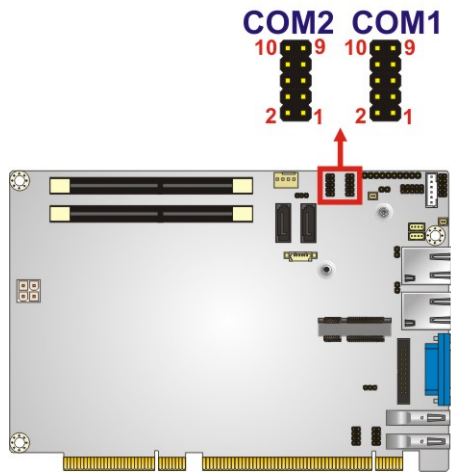

Figure 3-19: RS-232/422/485 Serial Port Connector Locations
- CN Location:** See **Figure 3-19**